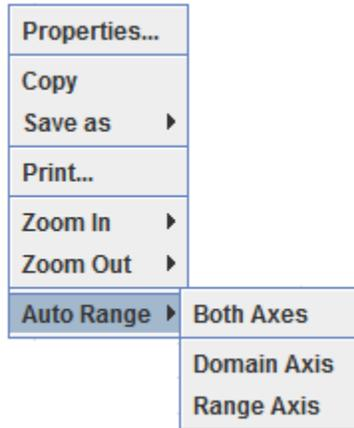

Figure 78 - Auto Range
1. Click Auto Range (Figure 78)